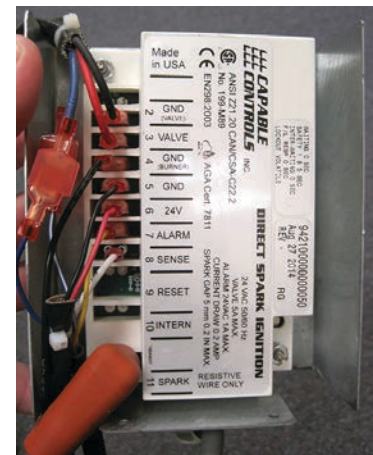

Figure 12 (right module wiring)
23. The right module should be wired as shown in Figure 12.